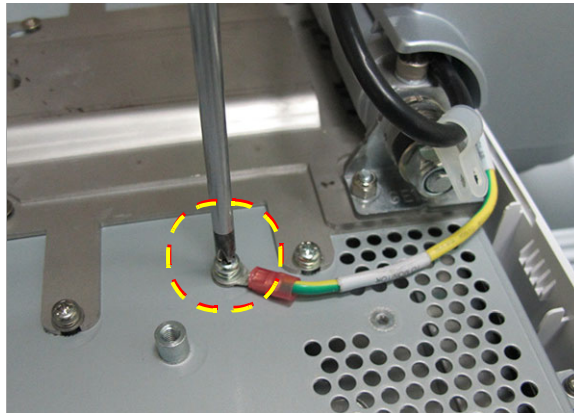

Figure 8-45 Releasing the Ground Cable
- 4) Remove the serrated lock washer and screw to release the Ground cable from the back of the monitor - Figure 8-45.
- 7.) Secure the Ground cable - Figure 8-45.